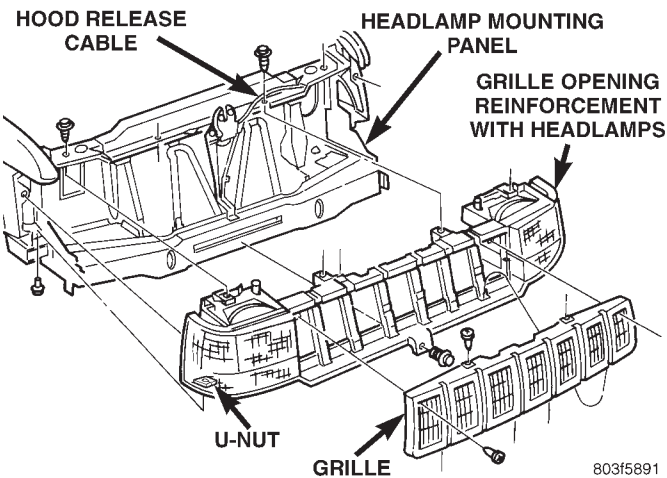

Fig. 1 Grille Removal
- (1) Remove grille screws at grille opening reinforcement (GOR) (Fig. 1).
- (2) If equipped, remove brush guard.
- (3) Unsnap lower clips at grille. Remove grille from (GOR).
- (4) Remove turn signals, side markers and headlamps. Refer to Group 8L, Lamps for service information.